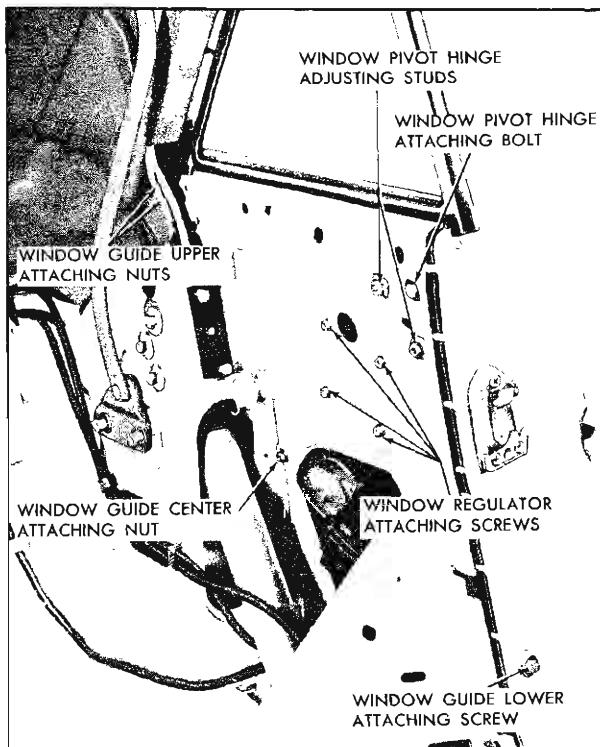

Fig. 4-8 Rear Quarter Hardware—"67" Style
3. Remove window pivot bolt (Fig. 4-8). Disengage window male hinge from female hinge plate; then raise window to disconnect window lower sash channel cam from roller on window regulator lift arm and remove window.
screws (Fig. 4-8); then adjust upper stop to desired position and tighten guide attaching screws.
a. Up or down or fore or aft window adjustment: Loosen pivot bolt and both adjusting stud nuts (Fig. 4-8). Position window as required; then tighten pivot bolt and stud nuts.
b. In or out adjustment of top of window: Loosen lower adjusting stud nuts and slightly loosen rear stud nut. Adjust lower stud in or out, as required; then tighten bolt stud nuts (Fig. 4-8).
c. In or out adjustment of rear window: Loosen pivot hinge rear adjusting stud nut and (slightly) lower adjusting stud nut. Loosen window guide upper attaching nuts and center stud nut (Fig. 4-8). Adjust rear adjusting stud in or out, as required, then tighten both stud nuts. Adjust window guide for proper alignment with window and tighten upper attaching nuts and center stud nut.
5. Remove regulator attaching screws (Fig. 4-8). Disengage regulator lift arm roller from window lower sash channel cam and remove regulator.
3. Remove window guide upper and center attaching nuts and lower attaching screw (Fig. 4-8). Disengage window guide and remove guide through large access hole.
"47" and "57" styles — Figure 4-8, 4-11